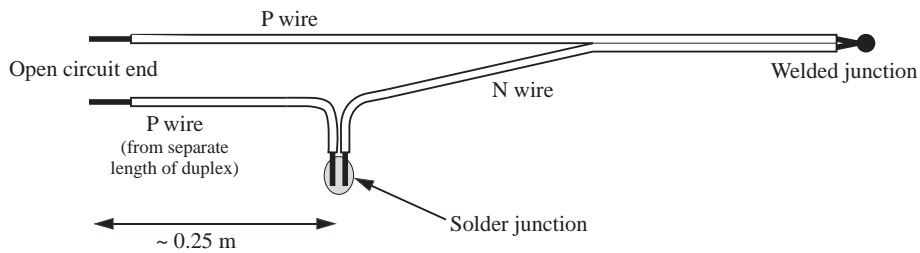

Figure 2: Configuration of the reference junction for the thermocouple circuit in Figure 4.
4. Cut another length of 30 cm of thermocouple wire (use scrap if possible), and separate the wires to obtain a length of the P type material (Copper if using type T). Refer to Figure 2. Solder the P wire from the short length of separated wire to the N wire from the thermocouple